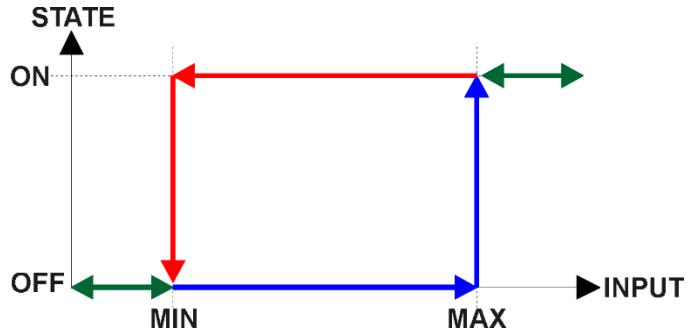

Figure 7 – Analog Input Reads as Digital
Should a different linear relationship between what is measured versus what is sent to the CANopen® bus be desired, objects 6132h, 7121h and 7123h can be changed. The linear relationship profile is shown in Figure 7 below. Should a non-linear response be desired, the lookup table function block can be used instead, as described in Section 2.3.
There is another type of ‘digital’ input that can be selected when 6112h is set to 20 = Analog On/Off. However, in this case, the input is still configured as an analog input, and therefore the objects from the Analog Input (AI) block are applied instead of those discussed above. Here, objects 2020h, 2030h and 6030h are ignored, and 6000h is written as per the logic shown in Figure 7. In this case, the MIN parameter is set by object 7120h **AI Scaling 1 FV**, and the MAX is set by 7122h **AI Scaling 2 FV**. For all other operating modes, object 6000h will always be zero.